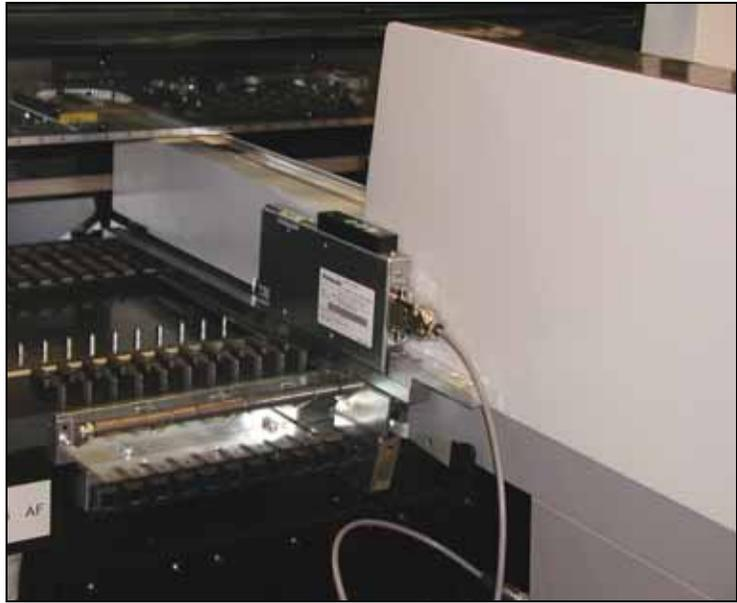

*Figure 2-10—The dowel on the Adapter (circled) mates with RoadRunner3.*
2. Lower RoadRunner3 so that the Feeder Bank Adapter dowel mates with the guide bushing on the RoadRunner3 conveyor. See Figure 2-10.